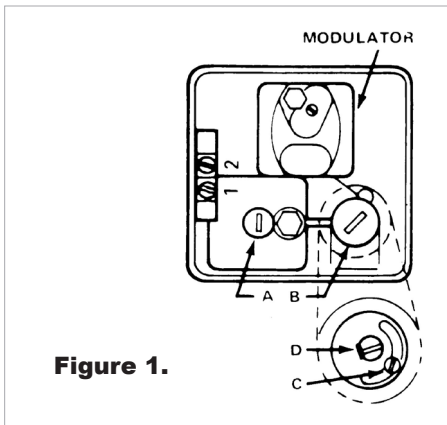

Figure 1.
- 2 Remove seal cap (A, Figure 1), and turn regulator pressure adjusting screw to obtain desired manifold pressure. (Clockwise rotation increases pressure.)
- 2 Remove cap (B, Figure 1), and loosen lock screw (C, Figure 1). Turn (D, Figure 1) to desired low fire adjustment. (Clockwise rotation reduces minimum flow rate.)
- 3 Tighten set screw (C, Figure 1), replace cap (B, Figure 1) and reconnect sensor wire to amplifier.